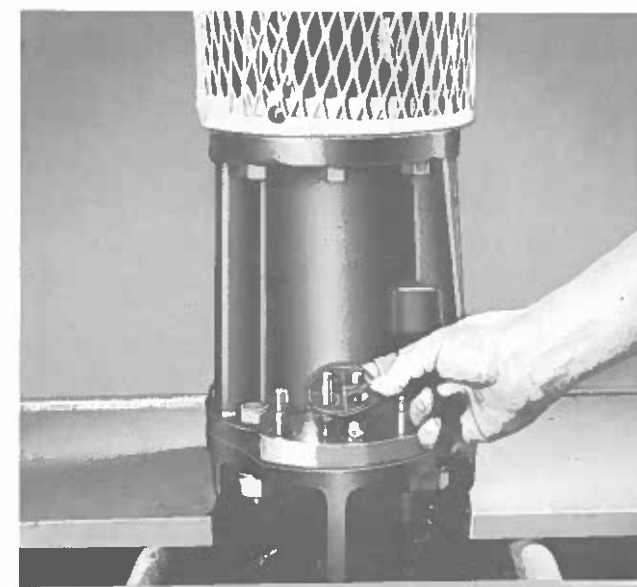

Figure 15 — Installing Terminal Box Gasket (Flat-Faced Type Shown)
- Unreel a sufficient length of cable to pass the bowl assembly, elevating the cable to the approximate height to fasten the terminal box (182) to the motor. Verify that the cable is not kinked. **DO NOT STRETCH THE CABLE.**
- Refer to Figure 15. Depending on configuration supplied:
- For flat faced (no rabbet fit) gland plate, install gasket (744-10) over terminals (019).
- For gland plate with rabbet fit, first install gasket (744-11) over rabbet fit on gland plate (111), then install gasket (744-10) over motor terminals (019).
- For "all metal" terminal box, install O-Ring (also identified as 744-11) on rabbet fit of gland plate (111).
- Remove shipping cap (023) from the cable terminal box (182).
- Slide the metal terminal box clamp (180) up the flat cable and off the terminal box (182), loosening the clamping screws (806) if necessary.